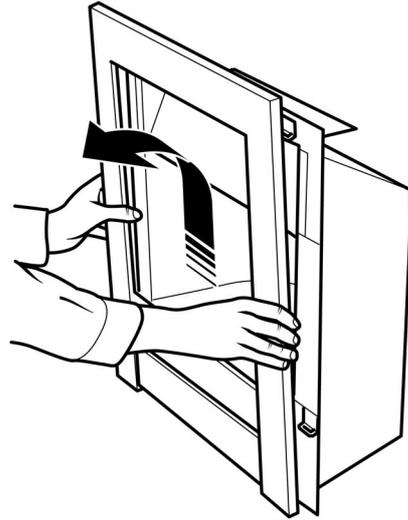

Figure 40. Front surround removal
2. The surround is held in place by four retaining plates at the back of the surround. To remove the surround, hold the sides of the surround and lift upward and forward. The surround should lift clear of the hotbox (See figure 40)